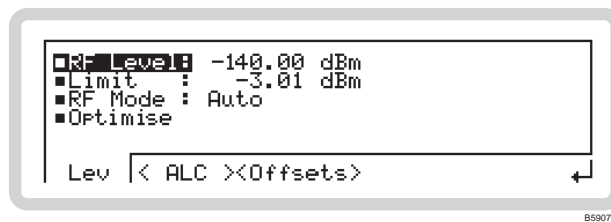

Fig. 3-21 RF level
- 2 Press to view the sub-menus. RF Level is highlighted (Fig. 3-21).
From the RF level menu of Fig. 3-21, touch <ALC> or press <TAB> to display the ALC screen (Fig. 3-22).